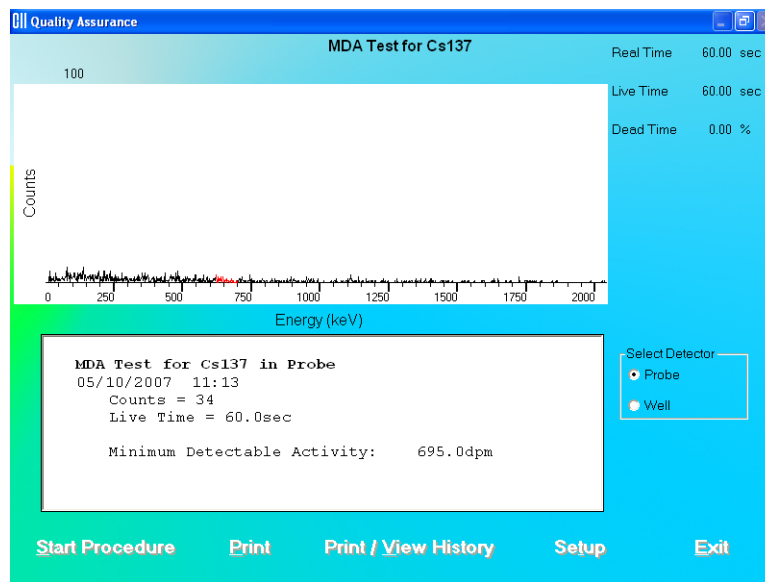

Figure 5-26
10. When the measurement is completed, the screen appears similar to that shown in Figure 5-26 displaying the Minimum Detectable Activity (MDA) measured in the selected isotope's ROI.